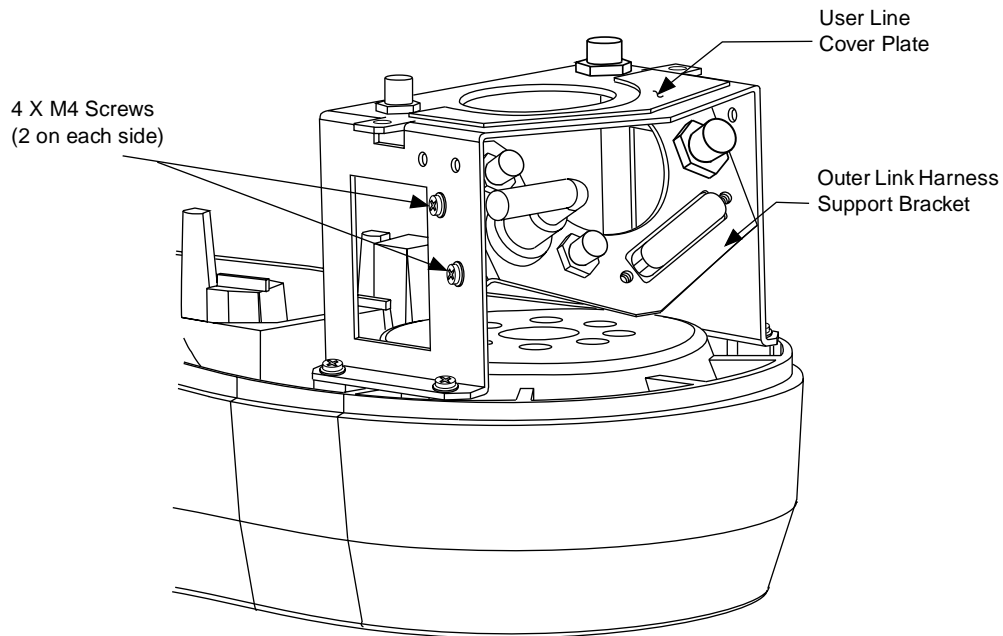

Figure 6-4. Outer Link Harness Support Bracket (Internal Routing Configuration)
3. Fold down the harness support bracket and install four screws as shown in Figure 6-4 on page 101.